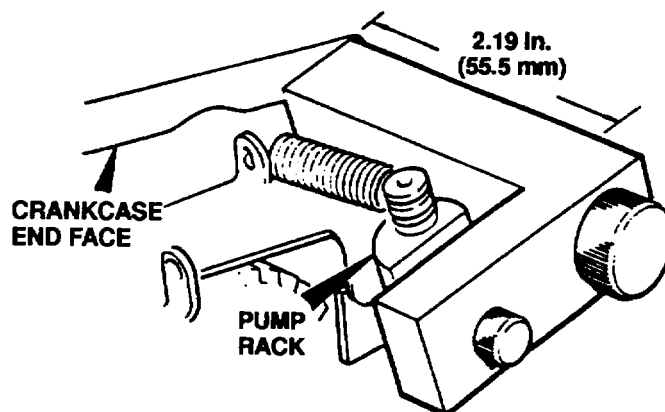

FIGURE 3-9. Setting Pump Rack
- f. Using fuel pump rack setting gage (317-50114), damp pump rack in shutdown position. Screw on gage threads into end cover tapped hole. Refer to FIGURE 3-9.